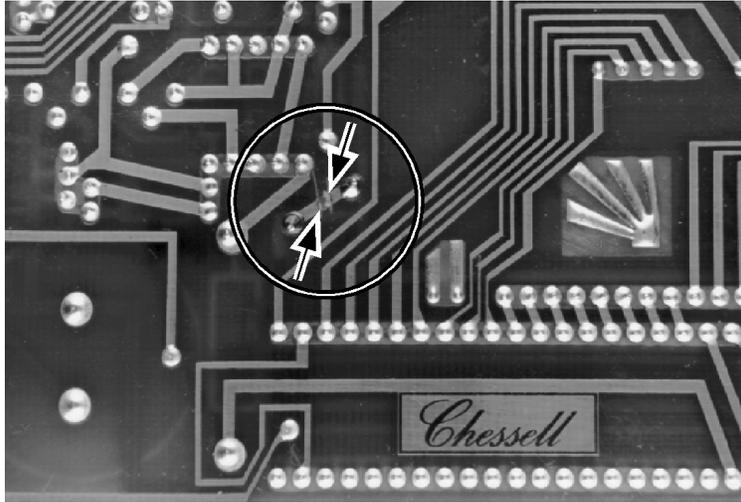

Figure 5.14.2b Track cut location
1. Cut the track on the non-component side of the display board as shown in figure 5.14.2b. Use a continuity meter to ensure that the cut in the track is complete.